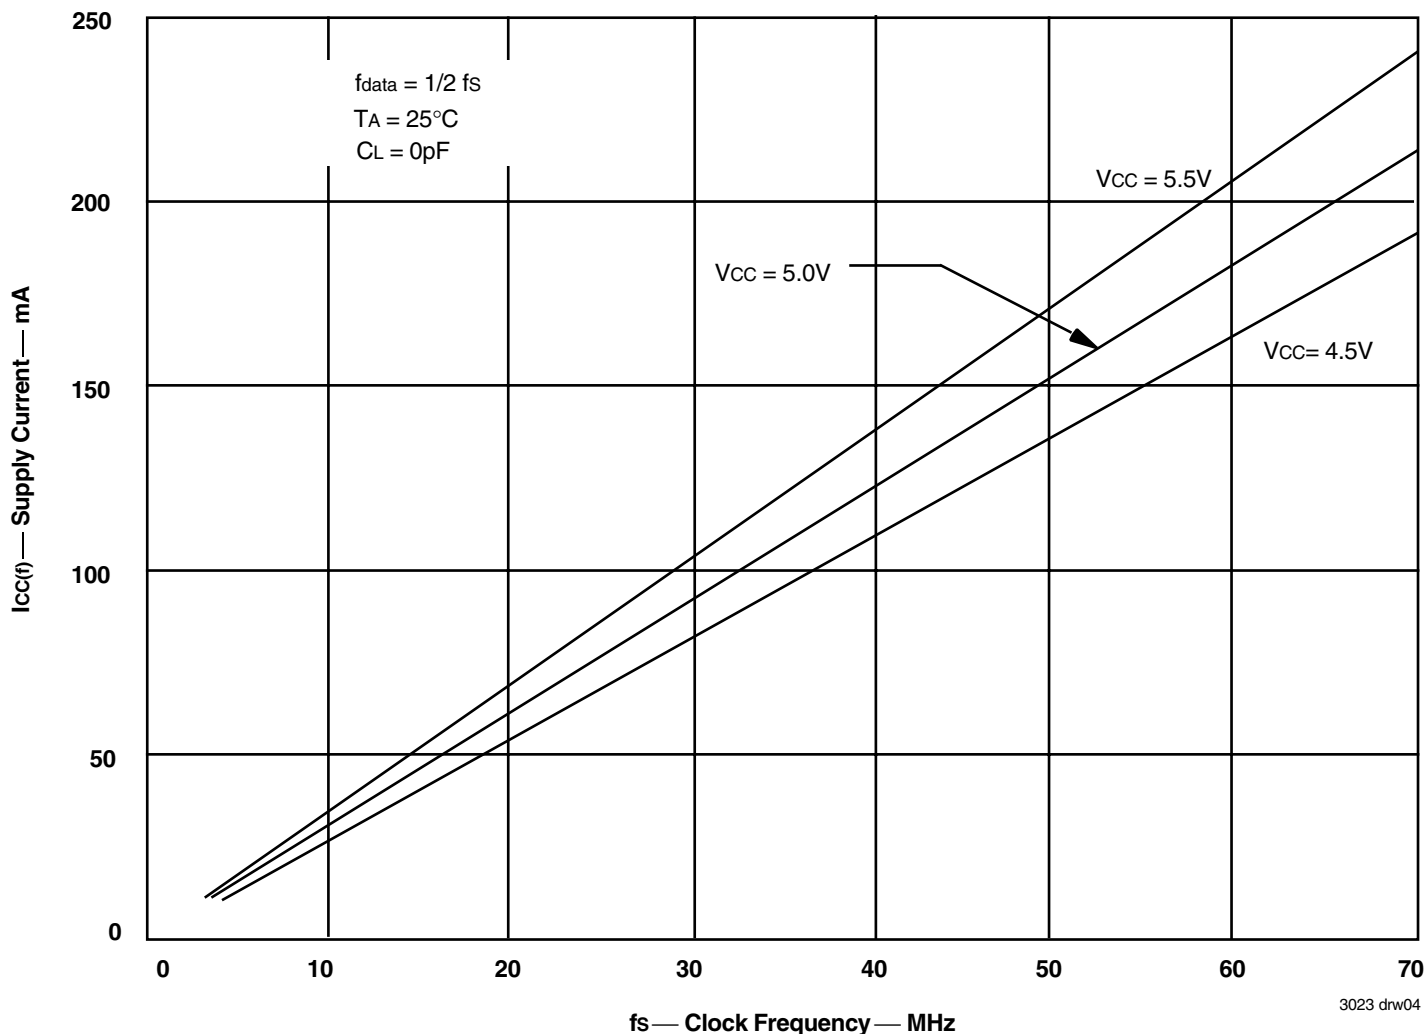

Figure 1. Typical Characteristics: Supply vs Clock Frequency
The Icc(f) current for the graph in Figure 1 was taken while simultaneously reading and writing the FIFO on the IDT723641 with CLKA and CLKB set to fs. All data inputs and data outputs change state during each clock cycle to consume the highest supply current. Data outputs were disconnected to normalize the graph to a zero-capacitance load. Once the capacitance load per data-output channel and the number of IDT723631/723641/723651 inputs driven by TTL HIGH levels are known, the power dissipation can be calculated with the equation below.
With Icc(f) taken from Figure 1, the maximum power dissipation (PT) of these FIFOs may be calculated by: